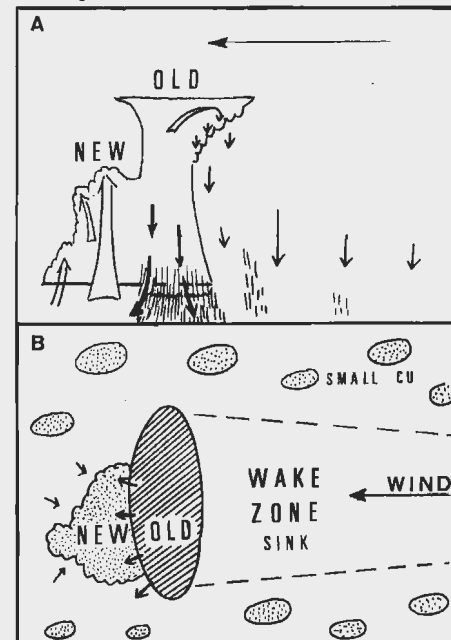

Fig 5. Region of sinking and dead air in the wake of a cu-nim. "A" is the side view; "B" a plan view.
When a cu-nim travels downwind it often leaves a wake of dead or sinking air behind it. Photo H shows a retreating hail shower which left a 20 mile stretch of dead air behind it. The anvil was still expanding and since there was little wind shear aloft it spread out on both sides. The picture was taken looking downwind. The typical structure of a cu-nim wake is shown in Fig 5. The cloud is moving from right to left. The upper diagram (A) shows a side view. The lower part "B" is a plan view. The old cu-nim with its overhanging anvil of cirrus is preceded by new cells growing rapidly on the downwind side. With luck one can make a rapid climb in the new cells and, if you remember which way to head, break out into the clear before flying gets too rough. Sometimes one can still climb even if part of the circle is made in the rattle of precipitation. The loud noise is a useful guide; it shows which way the sink lies and serves as a warning to get out before sink engulfs the whole circle.